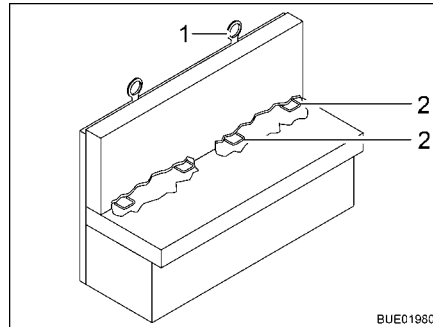

Fig. 25 ISOFIX child safety seat mounting system
If the vehicle is equipped with the ISOFIX child safety seat mounting system, the vehicle seats suitable for it are marked with the ISOFIX symbol. These vehicle seats have retaining brackets (Fig. 25,2) and another anchorage point at the top of the seat backrest (Top Tether) (Fig. 25,1). Use child restraint system suitable for ISOFIX. The child restraint systems possess connectors which are latched to the retaining brackets of the vehicle seat.
- If possible, fasten the child seat at the Top Tether (Fig. 25,1).